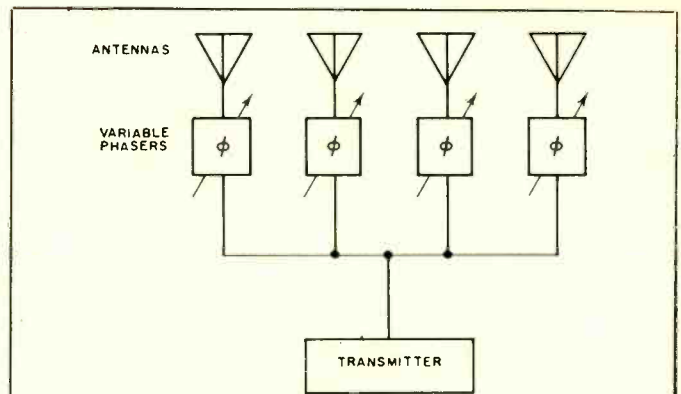
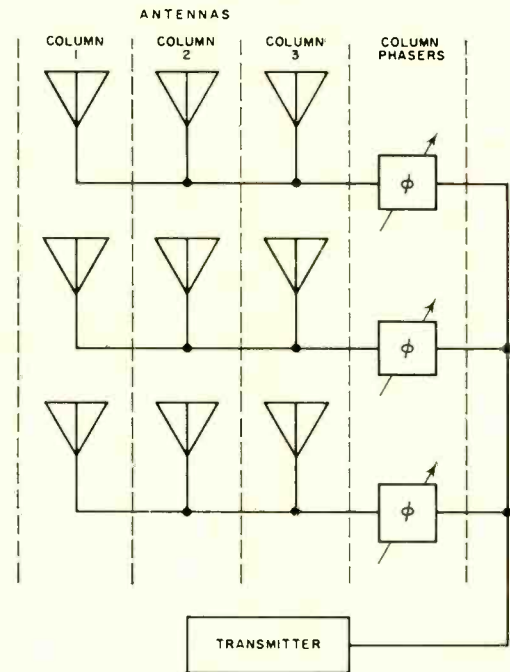
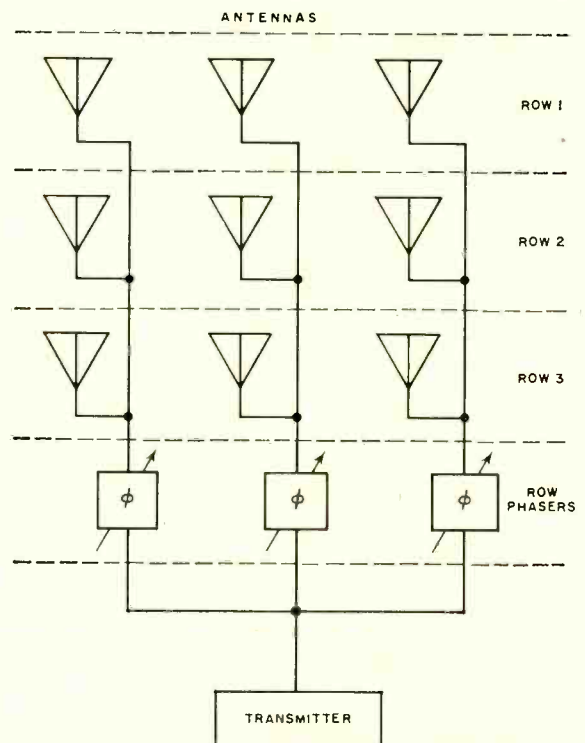
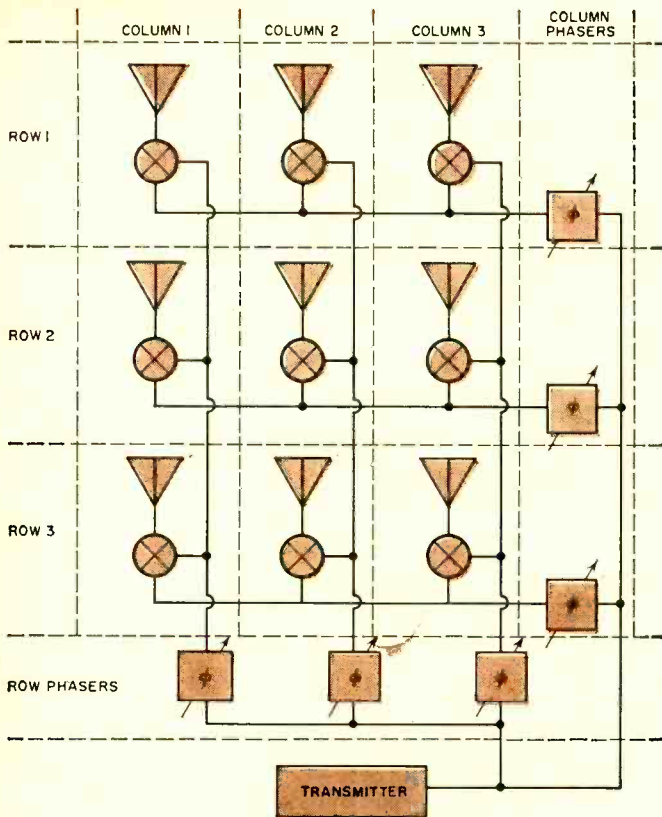

Fig. 3. An elementary linear antenna array with 4 elements.
Fig. 4. Column excitation of a group of 9 elements is shown.
Fig. 5. Excitation of the 9 elements into a row grouping.
Fig. 6. Two-dimensional phased array produced by combining the techniques shown in previous two figures. Mixers combine signals.
A linear antenna array using more than two antennas is shown in Fig. 3. The elements of a phased array may be directly driven as shown or parasitically driven. Multi-element arrays are widely used by radio amateurs, for TV transmission and reception, by some broadcasting stations, by long-distance commercial communications systems, and many others. This type of phased array, in general, uses manual phase adjustments; however, in some cases a series of manually tuned adjustments selected by relay circuits may be used to obtain a limited degree of flexibility.
Figs. 4, 5, and 6 illustrate in a simple manner one way in which the modern phased array may be developed. Fig. 4 shows nine antennas and three phasers connected to make three identical columns, each column being a linear array similar to Fig. 3. In the same manner, Fig. 5 shows nine antennas and three phasers connected to make three identical rows, each row being a linear array similar to Fig. 3.
Fig. 6 is a two-dimensional phased array obtained by superimposing Figs. 4 and 5. Notice particularly that the row and column driving signals are combined by mixing (crossed circles) before feeding the antennas. Fig. 6 shows:
1. The phase relationship between *antennas* in any given *column* is the same as for the *antennas* in the *columns* of Fig. 4. However, whereas the phase relationship between *columns* in Fig. 4 is zero (assuming no phase shifts in the connecting lines), the phase relationship between *columns* in Fig. 6 is
2. In the same way, the phase relationship between *antennas* in any given *row* is the same as for the *antennas* of Fig. 5. However, whereas the phase relationship between *rows* in Fig. 5 is zero (assuming no phase shifts in connecting lines), the phase relationship between *rows* in Fig. 6 is controlled by the *column* phasers.
The net result obtained by driving antennas as shown in Fig. 6 is a pencil beam whose direction with respect to the plane of the antennas can be controlled by controlling the phase of the row and column drive signals.
In a phased-array radar each antenna element is fed by a relatively low-power amplifier using conventional components. These amplifiers would be between the mixers and the antennas of Fig. 6 and high peak powers will exist only in space at those points where the low power outputs of the individual antennas add in the proper phase. With the beam peak power equal to $N \times P$, where N equals the number of antenna elements and P equals the peak power of an individual transmitter, it is apparent that peak powers on the order of tens of megawatts are easily obtained. It is high peak powers of this magnitude plus the ability to steer the radar beam in microseconds that enables a single phased-array radar to combine the search function with ability to track multiple targets.